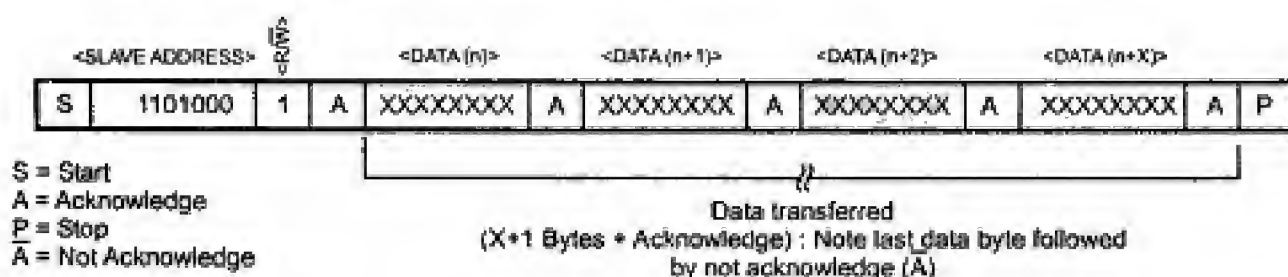

Fig. 15.16 Data read - slave transmitter mode
2. **Slave transmitter mode (DS1307 read mode)** : The first byte is received and handled as in the slave receiver mode. However, in this mode, the direction bit will indicate that the transfer direction is reversed. Serial data is transmitted on SDA by the DS1307 while the serial clock is input on SCL. START and STOP conditions are recognized as the beginning and end of a serial transfer as shown in Fig. 15.16. The address byte is the first byte received after the start condition is generated by the master. The address byte contains the 7-bit DS1307 address, which is 1101000, followed by the direction bit (R/active-low W), which for a read is a 1. After receiving and decoding the address byte, the DS1307 inputs an acknowledge on the SDA line. The DS1307 then begins to transmit data starting with the register address pointed to by the register pointer. If the register pointer is not written to before the initiation of a read mode, the first address that is read is the last one stored in the register pointer. The DS1307 must be sent a Not-Acknowledge bit by the master to terminate a read.